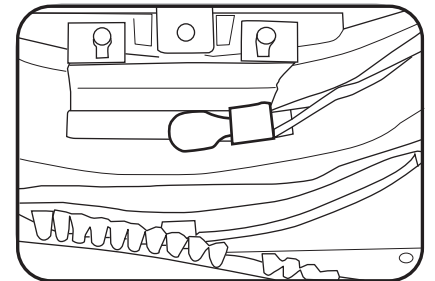

Fig. 2
2. To remove the old bulb, pull it straight out (Fig. 2).